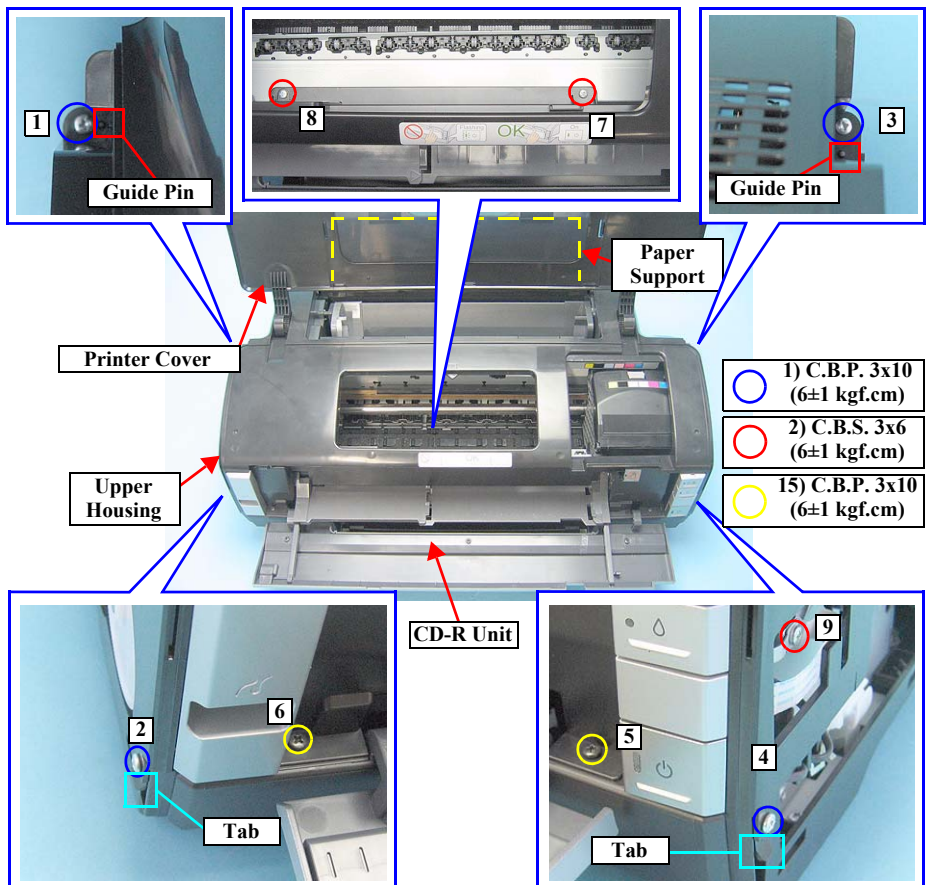

Figure 4-12. Screws that Secure the Upper Housing
6. Remove the Guide Pins from the two tabs shown in Figure 4-12, and remove the Upper Housing upwards.
- Align the Guide Pins with the positioning holes of the Upper Housing. See Figure 4-12.
- Tighten the screws in the order shown in Figure 4-12.